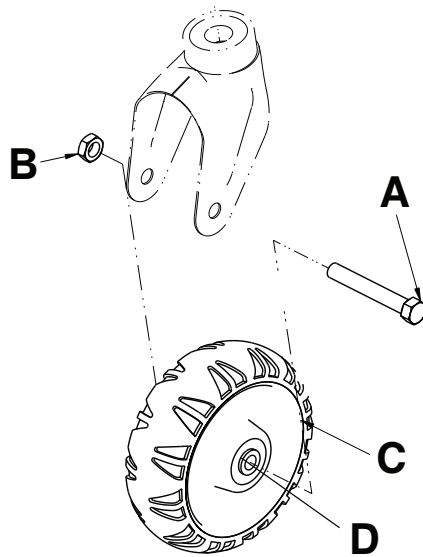

Figure 4 – Cot wheel without wheel covers
2. Using a 5/8" socket with 3/8" drive ratchet and a 11/16" combination wrench, remove the hex head cap screw (A) and remove the nut (B) that secures the wheel (C) to the caster horn (Figure 4). Located on the patient right side at the foot end of the cot used with the installed wheel guide assembly. Save the screw. Discard the nut.
3. Remove and discard the two bushings (D) from the wheel (Figure 4).